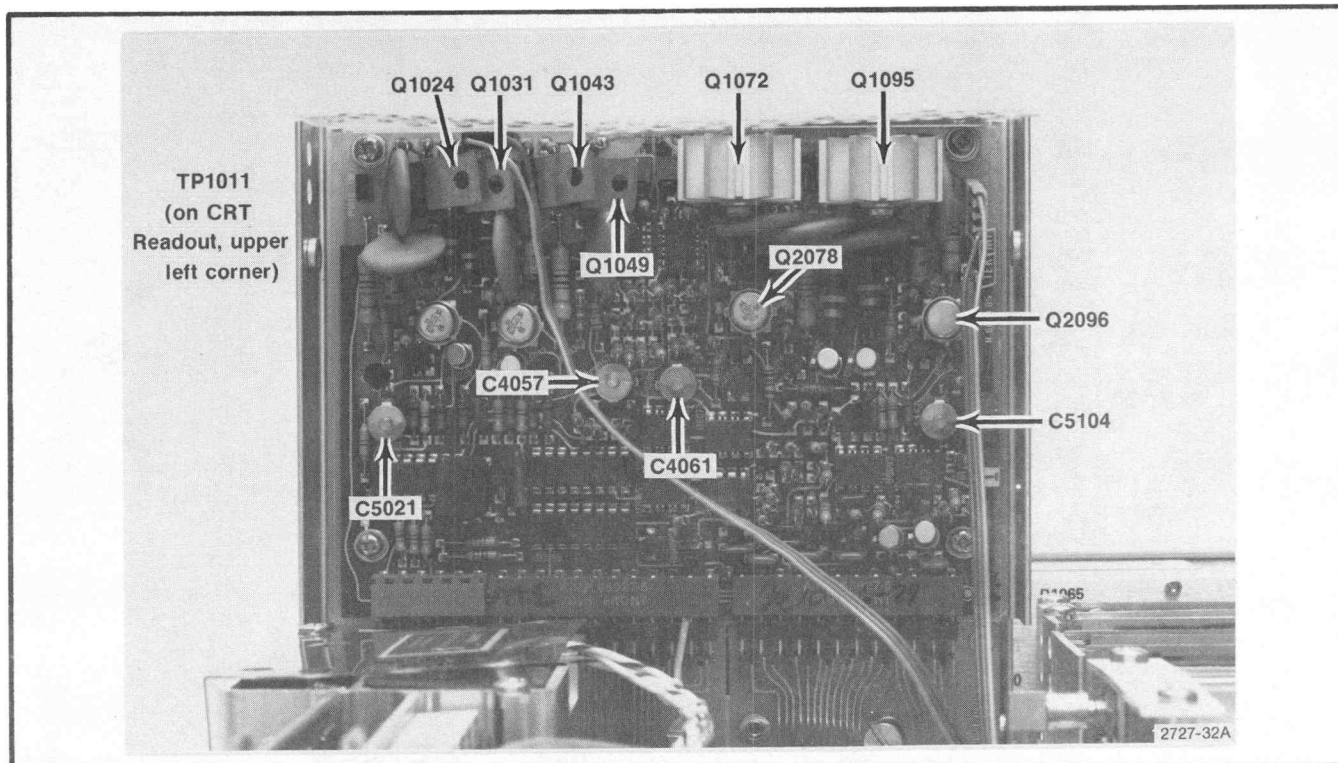

Fig. 3-27. Test points and adjustments on the Deflection Amplifier board for gain and frequency response calibration.
k. Connect the test oscilloscope probe to the collectors of Q1031 and Q1024. Adjust C5021 (Fig. 3-27) for the best frequency response (no overshoot or rolloff).
l. Connect the probe to the collectors of Q1043 and Q1049. Adjust C4057 (Fig. 3-27) for the best response.
m. Connect the probe to the collectors of Q1072, Q2078 (Fig. 3-27), and adjust C4061 for the best response.
n. Connect the probe to the collectors of Q1095, Q2096 (Fig. 3-27), and adjust C5104 for best response.